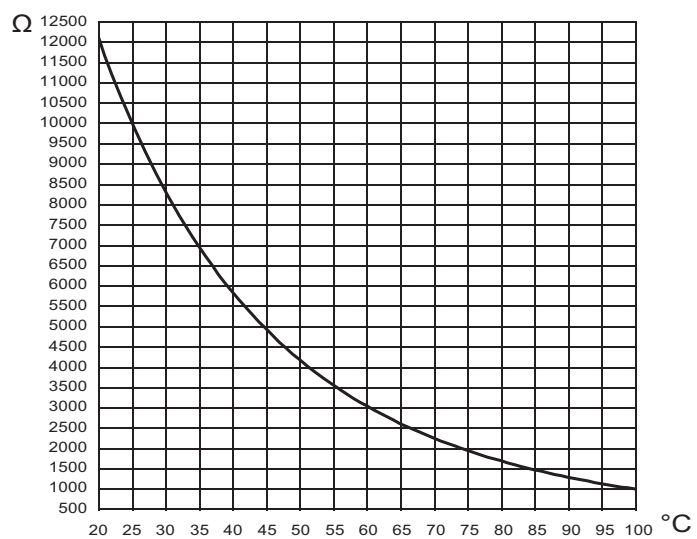

Figure 20.4
- 2 Measure the Flue temperature probe NTC and Safety thermal fuse electrical resistance at the ambient temperature and check it according to the graph in (Figure 20.4).